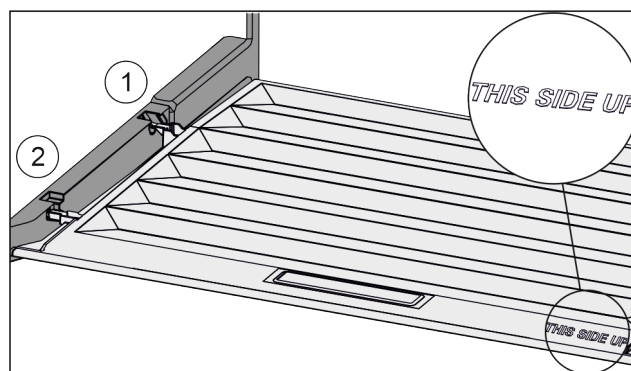

Fig. 103
- Insert the lip of the cover over the opening of the rear bracket Fig. 103 (1) and click into place Fig. 103 (2).